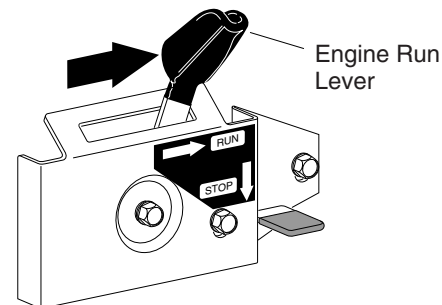

Figure 16 - Engine Run Lever in RUN Position
3. Move engine run lever to RUN position (see Figure 16).